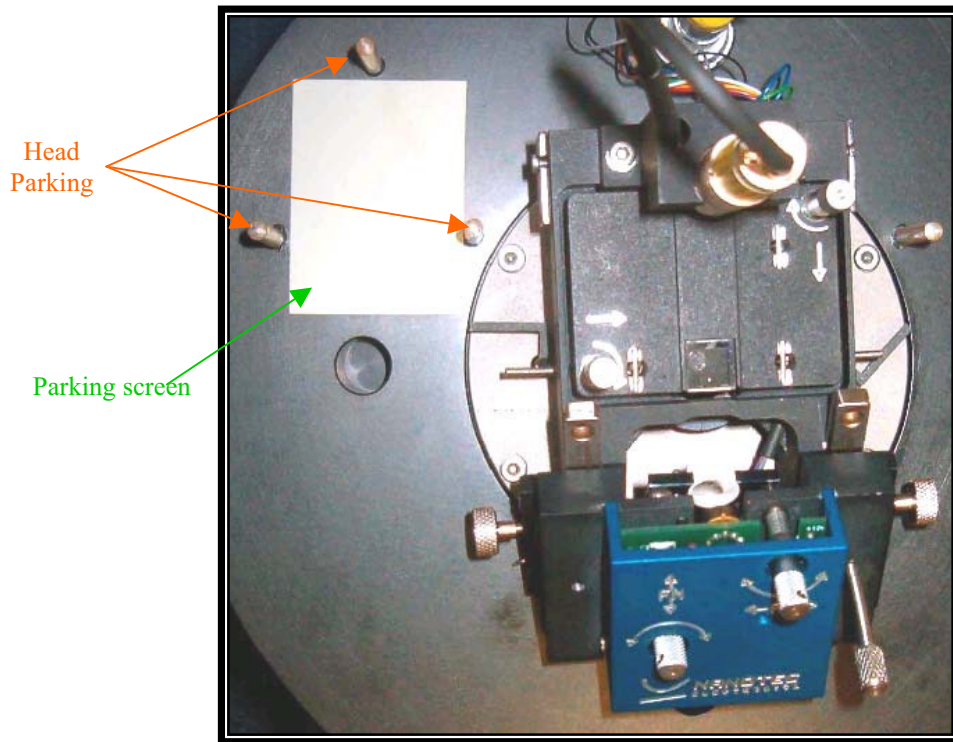

Fig 4.6
*To align the laser and to tune the photodiode, place the SPM Head on the Head Parking supports (see Fig.4.6).*
- Then, move the laser beam along the chip (parallel to the cantilever, use screw #1, see Fig. 4,13) until arriving and surpassing the edge of the chip. You will know when you surpass it because you will see a clear spot under the cantilever holder (Fig. 4.9) (it is advisable to place a 'paper screen' at the base of the Head Parking, as shown in Fig.4.6).